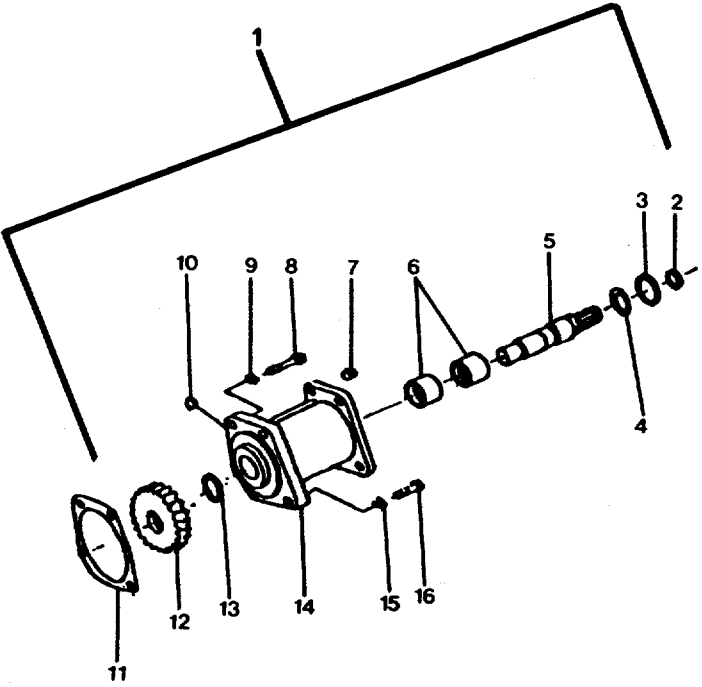

FIGURE 3-5. Engine Accessory Bracket.
- a. Remove four hexagon head capscrews (8 and 16, FIG. 3-5) and lockwashers (9 and 15).
- b. Pull engine accessory bracket (1) from engine.
- c. Remove and discard gasket (11).
- h. If the shaft (5, FIG. 3-5) measurements are not in specification or the gear is damaged, replace as follows:
- (1) Use an arbor press to support the gear (12) with the shaft oil hole down.
- (2) Remove the gear by pressing on the shaft.
- (3) Measure the shaft outside diameter at the gear location. Verify outside diameter is between 1.5660 inch (39.776 mm) and 1.5670 inch (39.802 mm). Replace shaft if outside diameter is not within specifications.
- (4) Measure the inside diameter of the spur gear (12). Verify the inside diameter is between 1.5640 inch (39.726 mm) and 1.5650 inch (39.751 mm). Replace gear if inside diameter is not within specifications.
- (5) Apply a smooth coating of Loctite 609 on the gear (12) bore. Use an arbor press to support the gear. Press in the shaft (5) until the gear touches the shoulder of the shaft.
- a. Install pipe plug (10, FIG. 3-5) in support (14). Tighten to 135 in-lb (15 N-m).
- b. Use Lubriplate No. 105 to lubricate the grooved surface on the thrust washer bearing (13).